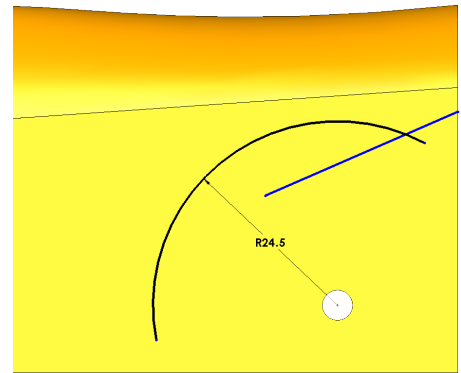

Fig. 92
Step 9. Start line on back edge and draw line toward front at a slight downward angle, **Fig. 92**.